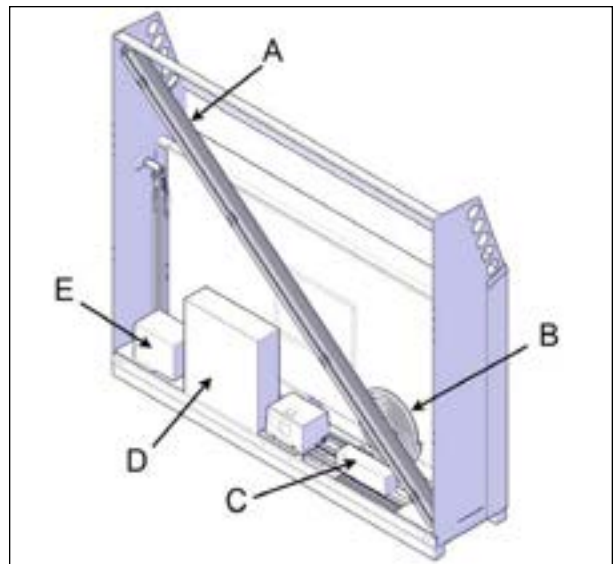

FIGURE 24: REMOVE COMPONENTS FROM CRATE
4. Remove the C-channels, U-frames, the escape hatch box, the hardware boxes, the foam pieces and the contour seal from the crate. Temporarily put these items in a safe location see Figure 24.